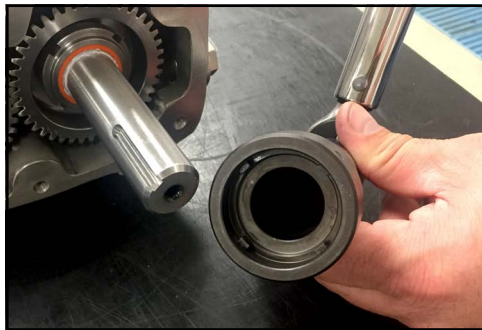

Figure 153 - Gear nut driver tool
1. Align the tabs on the socket of the gear nut driver tool (part numbers on page 151) with the indents on the locking nut as shown in Figure 153.